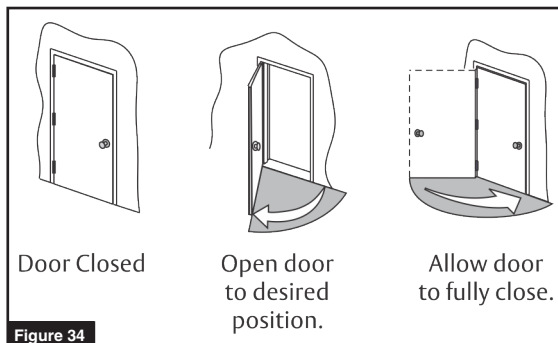

Figure 34
- Push in on joystick again, while door is still closed, to set Home or closed position (Figure 34). Display changes to "Set Open Limit".
- Open door to desired open position (Figure 34) and push in on joystick again. Display changes to "Closing to Home".
- Allow door to fully close again (Figure 34). Display changes to "Home".